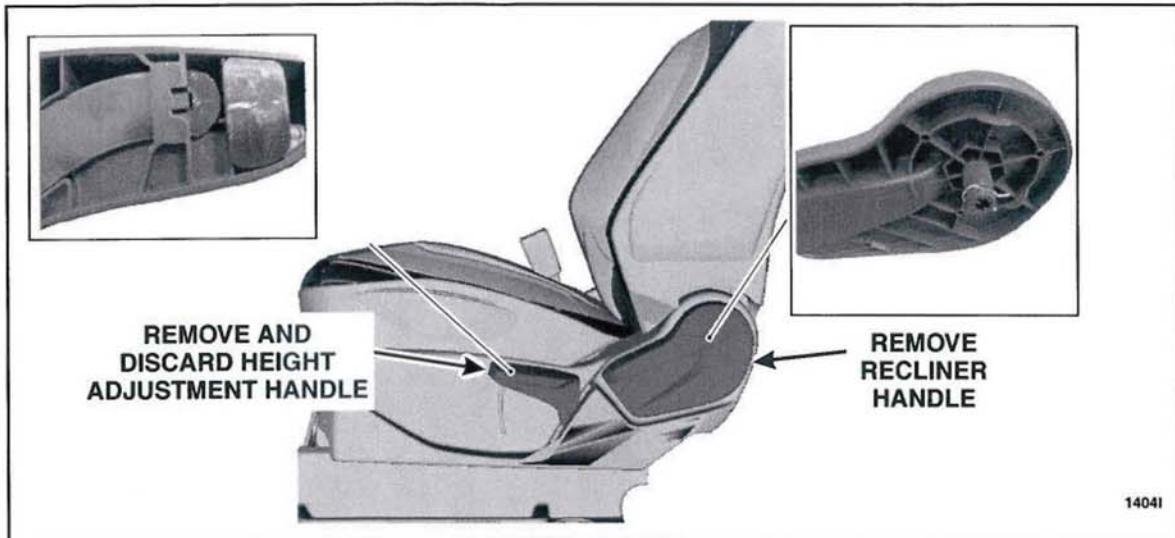

FIGURE 9
11. If equipped, remove the height adjustment and seat recliner handles. Discard the height adjustment handle. See Figure 9.